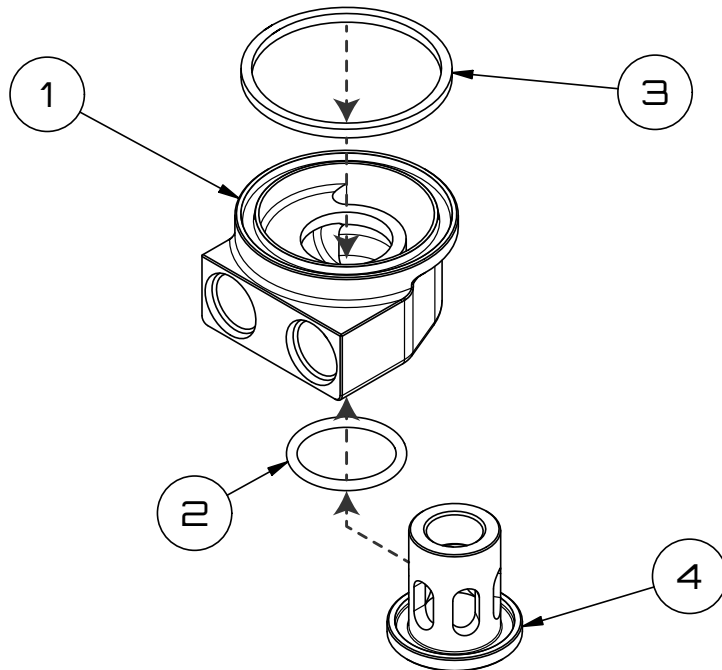

Figure 1 - ENV-191 Schematic
1. Ensure each O-ring is seated in the correct O-ring gland. Reference Figure 1 for help.